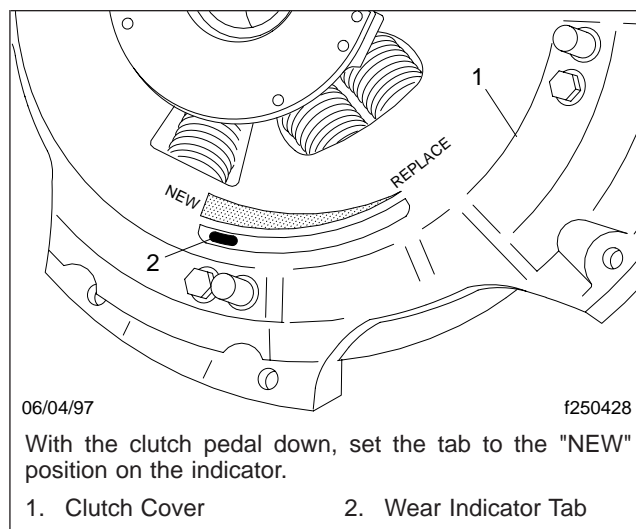

Fig. 7, Resetting the Wear Indicator Tab
2. With the pedal held down, move the wear indicator tab to the left (NEW) position. See Fig. 7.